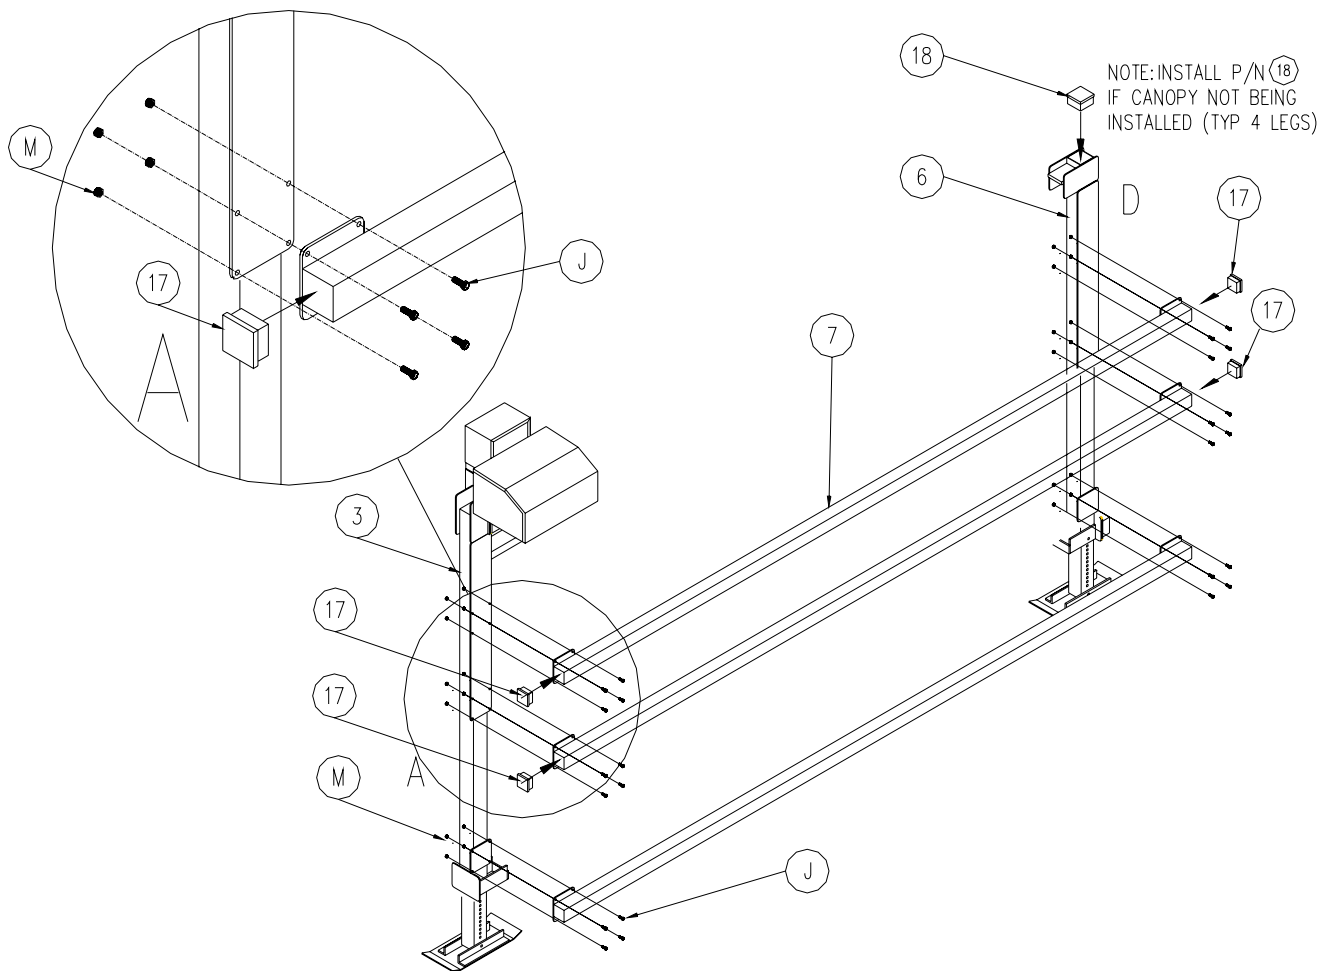

Figure 3-4.
1. Refer to Figure 3-4. Fasten three long horizontal tubes between vertical legs A and D with hardware shown. **DO NOT TIGHTEN.**
6. Install the eight plastic caps (17) provided onto the ends of the upper long horizontal tubes.
5. Fasten a long horizontal tube across each end to connect the two sides using hardware shown in Figure 3-4. **DO NOT TIGHTEN.**